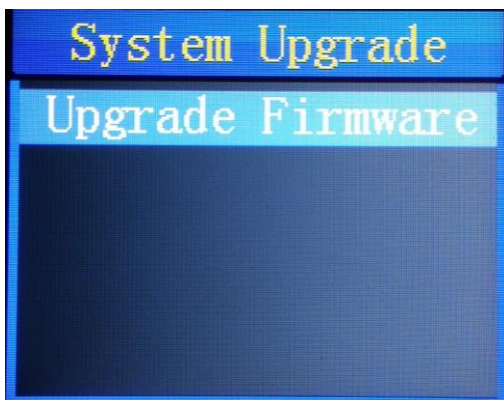

Figure 2
3. Enter the **System Upgrade** page and use the UP/DOWN button to select **Upgrade Firmware** (Figure 2), confirm your selection with ENTER to upgrade fixture's firmware.